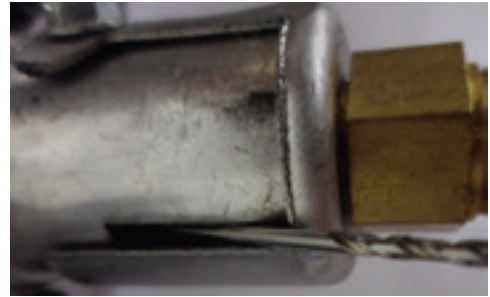

Figure 4 (Measure opening using drill bit)
1. Ensure the air shutter is set to the specification. **See Figures 4 to 6** on this page and **Tables 1 and 2 on page 8**.
Test air shutter setting with a round object like a drill bit. The object should barely slide between the opening. **(See Figure 4)**